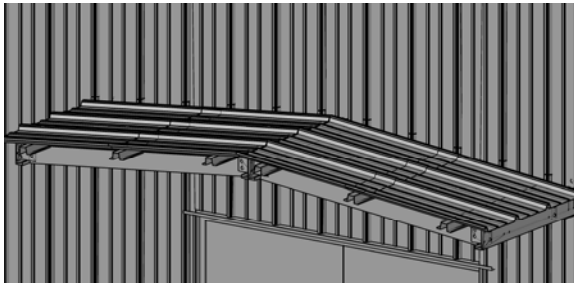

FIGURE 11
- 1. Place the Ridge Roof Sheet and (2) End Roof Sheets on to the Hat Purlins. Center the sheets and slide them against the building wall sheets as shown. Mark each of the wall corrugations at the top of the roof panel per **Figure 11**.